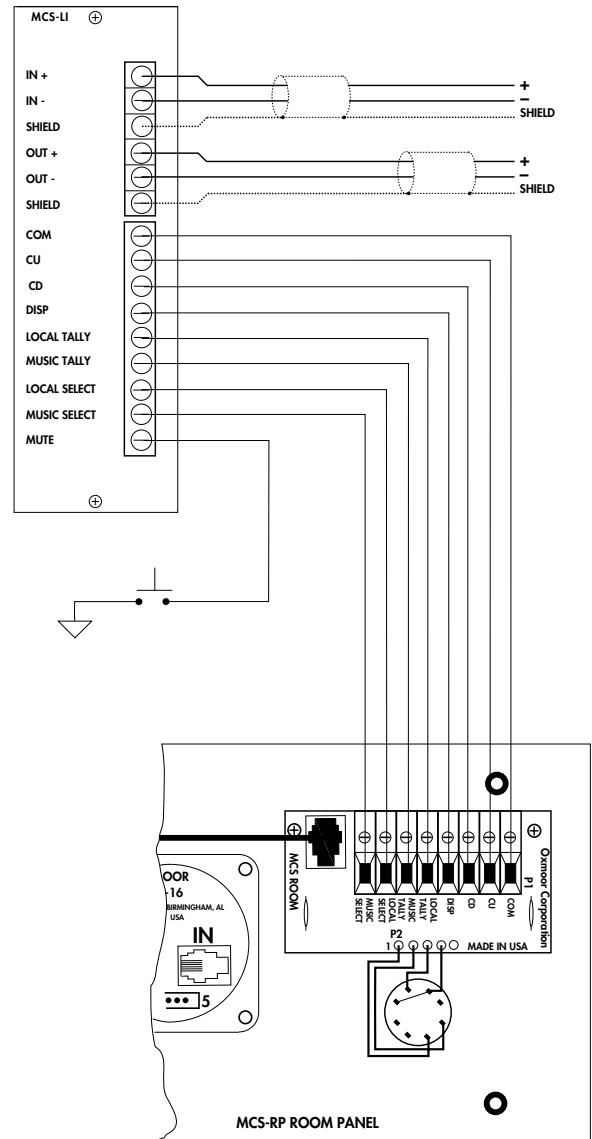

Figure 2.0: MCS-LI Line Input Card Connections
(Refer to Figure 2.0)
3. Room Panel Connections. Figure 2.0 shows the correct interconnection of the MCS-LI Line Input Card and the MCS-RP Room Panel. Each of the eight terminals on the rear of the Room Panel connects directly to the terminal of the same name on the MCS-LI. Using a number 22 AWG cable, the maximum cable length to each MCS-RP is 600 m (2000 ft).